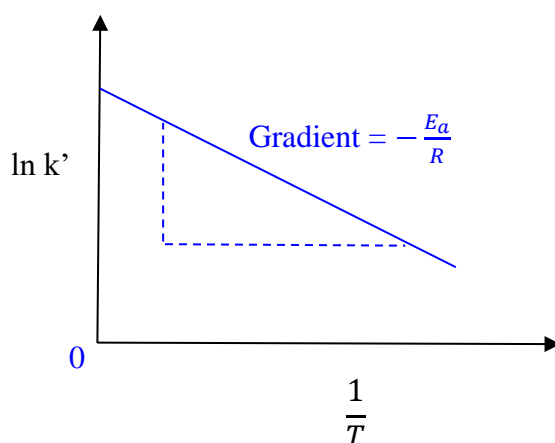

Fig. 2.2
- (iii) Sketch the graph you would expect to obtain from **2(c)(ii)** on the axes in Fig. 2.2.